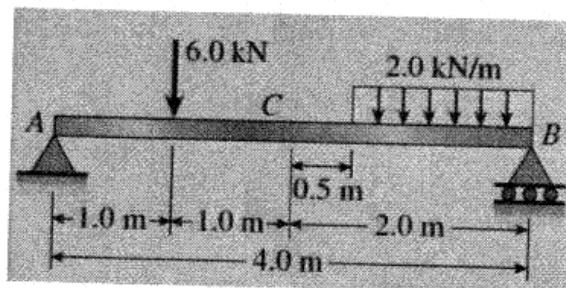

Figure 3
12. (a) Draw the shear force and bending moment diagrams for the loaded beam shown in Figure 3. Clearly indicate the maximum bending moment. (13)